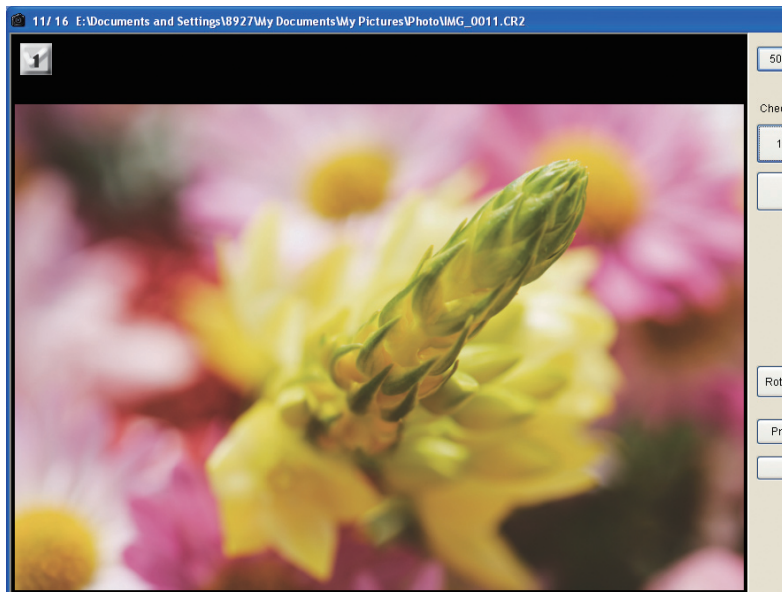

Fig. 018 Quick check window
- A Quick check window has been added that shows images reduced to half size (Fig. 018). This window, because it displays images more quickly than the Edit or Edit Image windows, which process and display images at full size (100%), provides a quick and convenient way to check the focus, etc.